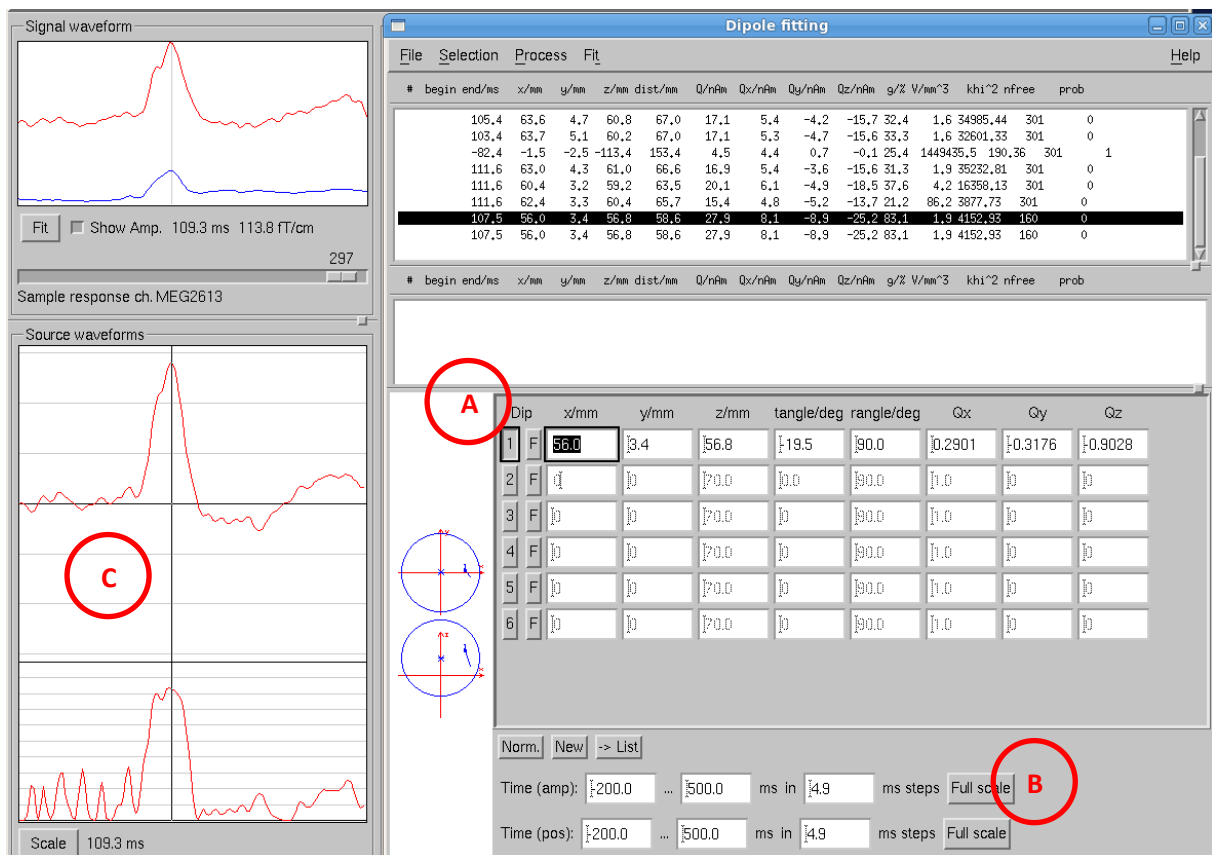

Figure 35: Plot source waveform and residuals for a dipole estimation.
- In the Dipole fitting window, activate a dipole display by clicking the “1” box, see Figure 35 (A)
- In the Time (amp) row, click **Full scale**, see Figure 35 (B). The source waveform and residuals are displayed in the main window (Figure 35 (C)) and overlaid in the **Full View**.